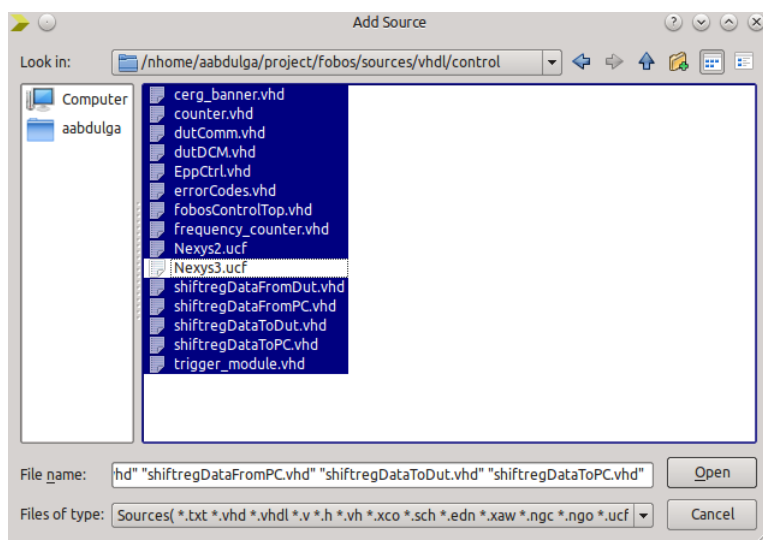

Figure 2.2: Adding Source Files to FOBOS Controller
3. Repeat the previous process to add all vhd1 files from `$fobos/sources/vhd1/control`. Also, add the appropriate UCF file depending on the Control Board used (See Fig 2.2) .